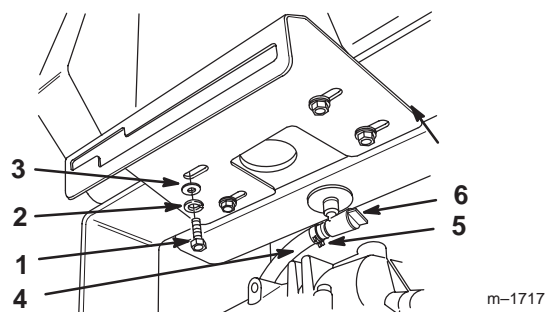

Figure 4
- Secure control panel and fuel tank to rear frame with 4 bolts (5/16 x 7/8 in.), 4 lock washers (5/16 in.) and washers (Fig. 4).
- Slide hose clamp onto fuel line (Fig. 4). Push fuel line onto fuel tank fitting and secure with hose clamp (Fig. 4).